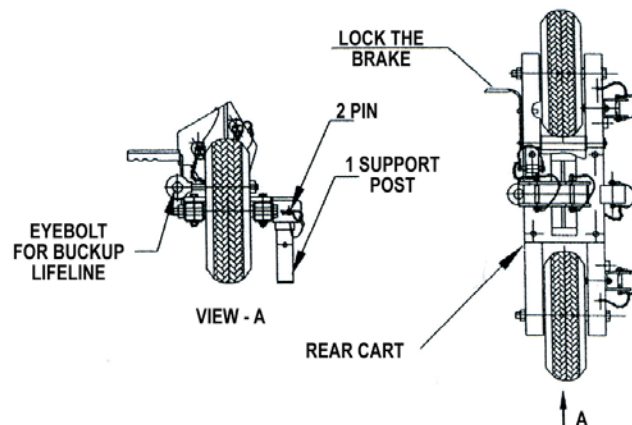

Figure 5
Place the rear cart in the proper position (Fig. 5). Lower the small support post (pos.1) to level the rear cart and secure it with the attached pin 2.